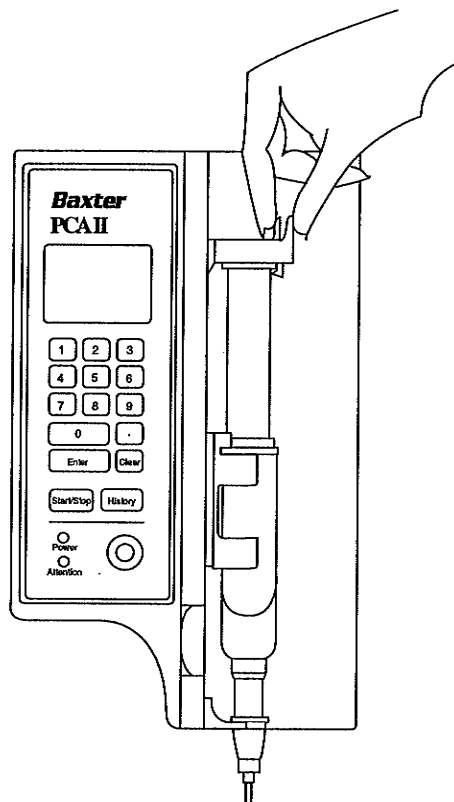

Figure 2-5 • Latching the pusher block to the syringe plunger flange
- Squeeze the release lever and advance the pusher block until the latch grasps the syringe plunger flange and the pusher block presses firmly against the syringe plunger as indicated in Figure 2-5.